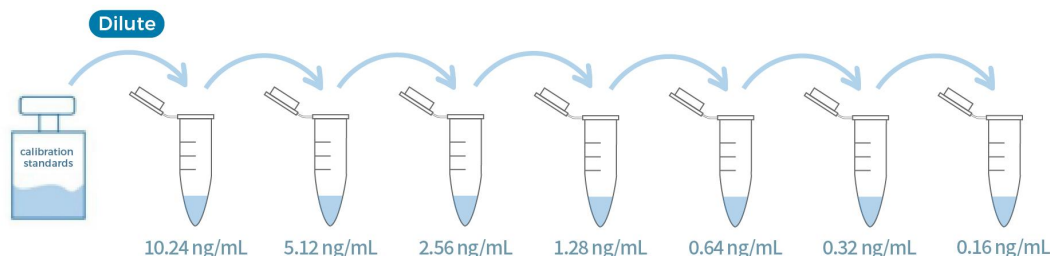

Figure 3. Graphic scheme of Trypsin-analog Calibration Standard Solutions
(3) Preparation of Calibration Standard Solutions
- Prepare Trypsin-analog Calibration Standard Solutions as indicated in Fig 3 and Table 2.